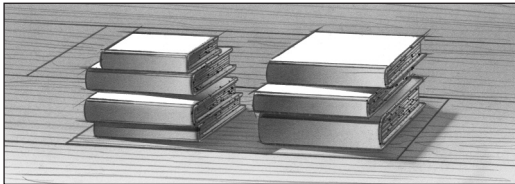

Fig. 53
15. Make sure all edges are even on either side of the joints. Apply pressure for at least 24 hours using heavy weights (Fig. 53).